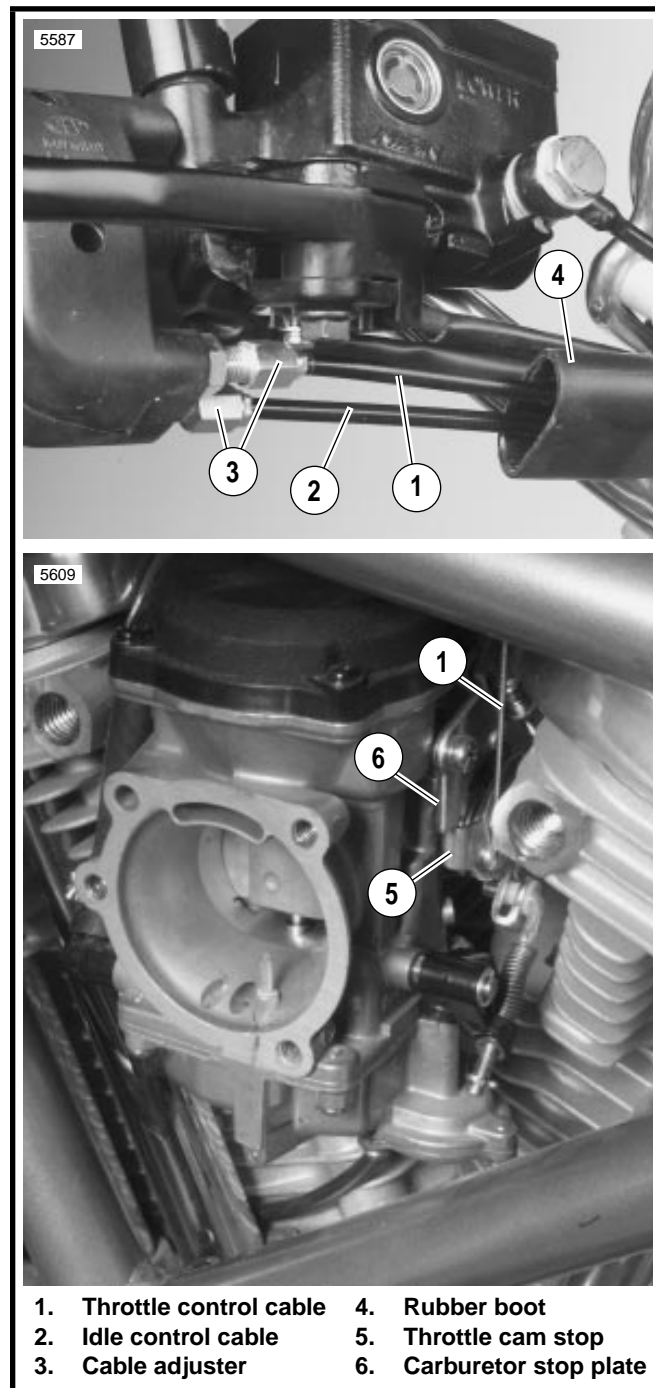

Figure 1-41. Carburetor
2. See Figure 1-41. Slide rubber boot (4) off cable adjusters (3).